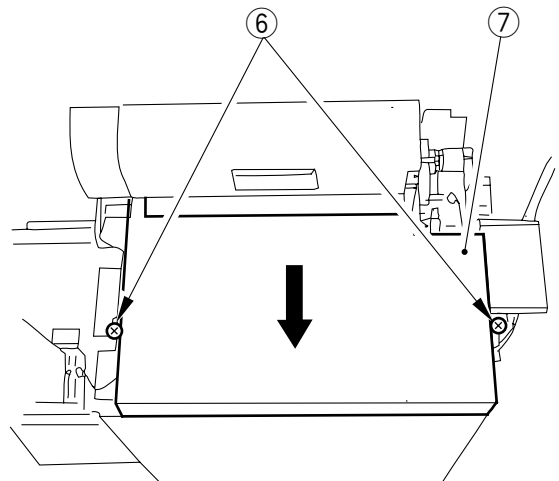

Figure 8-310
- 4) Close the deck vertical path assembly, and remove the two screws ⑥; then, move the upper cover ⑦ in the direction of the arrow (Figure 8-310).